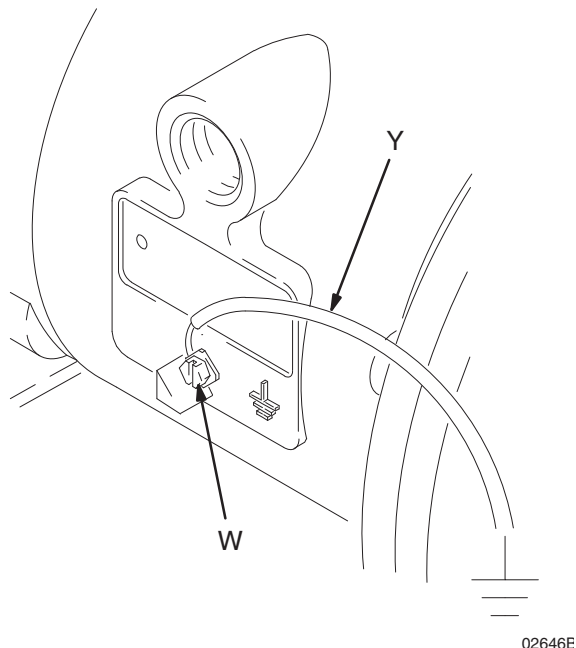

FIG. 1
- **Pump:** Connect a ground wire and clamp as shown in FIG. 1. Loosen the grounding screw (W). Insert one end of a 12 ga (1.5 mm²) minimum ground wire (Y) behind the grounding screw and tighten the screw securely. Connect the clamp end of the ground wire to